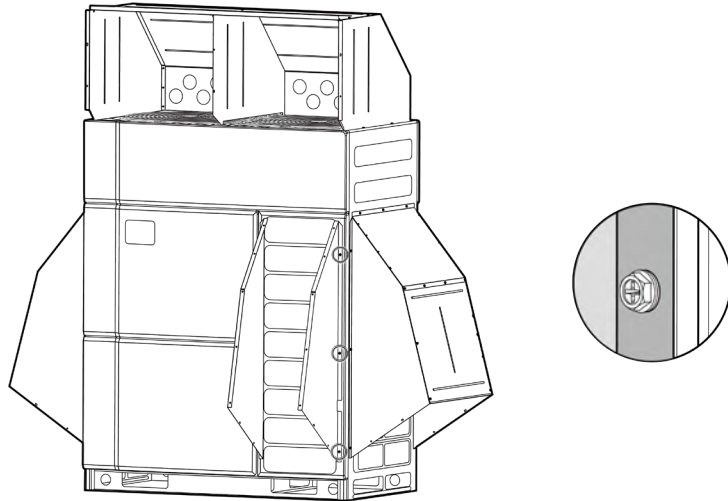

Fig. 3.28
(2) Installation of side plate. Dismantle the installation pasteboard 1. During installation, the bottom edge of left and right side plate of the left sub-assy shall be folded outwards. Fix the side plate with 6 screws, as is shown in Fig 3.28.